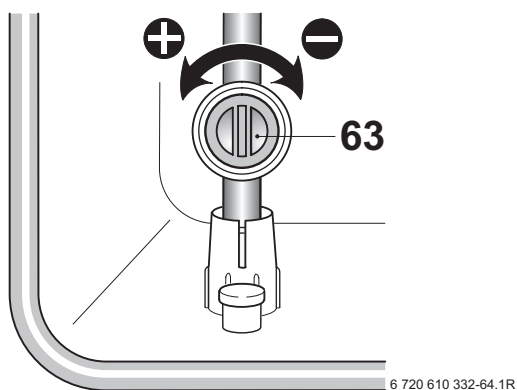

Fig. 45
- ▶ Adjust the gas flow restrictor (63) to obtain the CO₂ level given in Table 16. Refer to fig. 45.